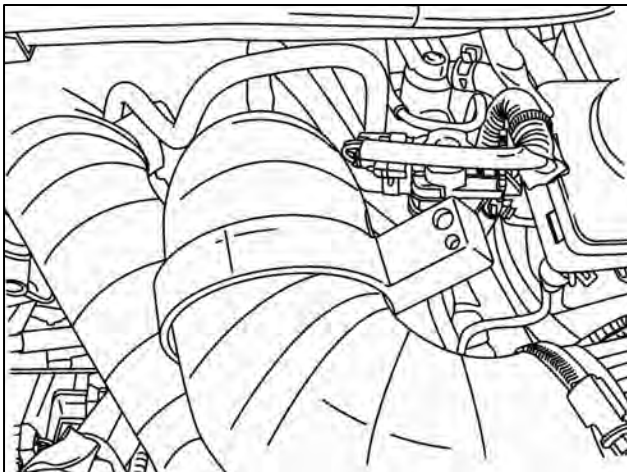

Fig. 18-10
- (m) Install TRD-provided rubber VSV mount to intake hose. (Fig. 18-10).